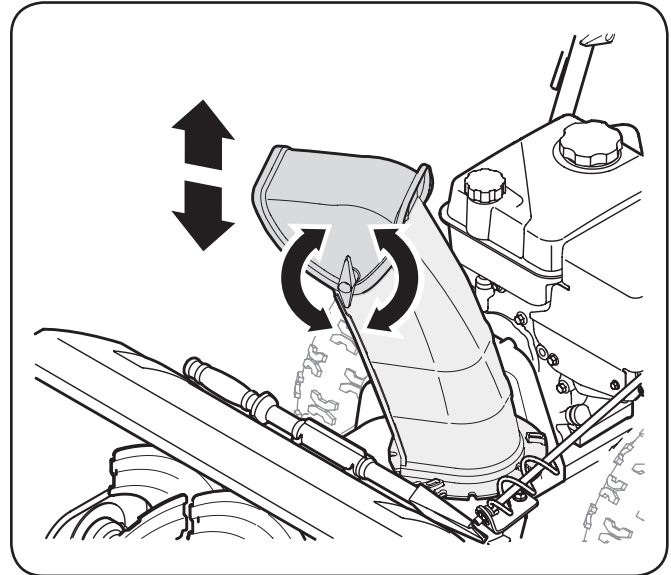

Figure 3-9
2. Pivot the chute upward or downward before retightening the wing knob. See Fig. 3-9.